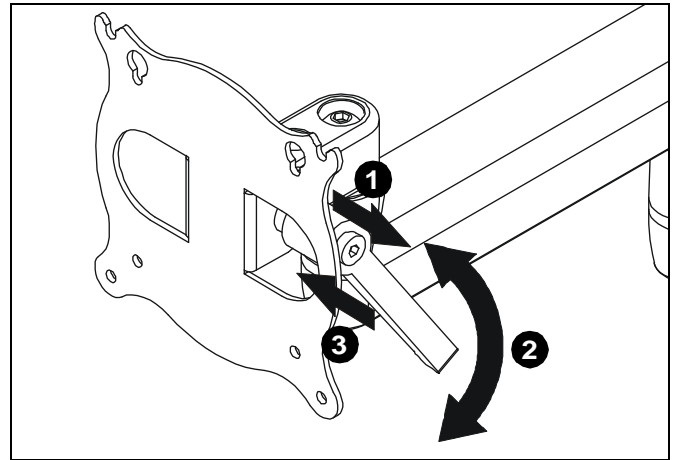

Figure 13
1. Pull entire handle out away from mount to allow handle position to be adjusted to be prior to pitch adjustment. (See Figure 13)
2. Adjust handle to desired position. (See Figure 13)
3. Push entire handle back towards mount prior to pitch adjustment. (See Figure 13)